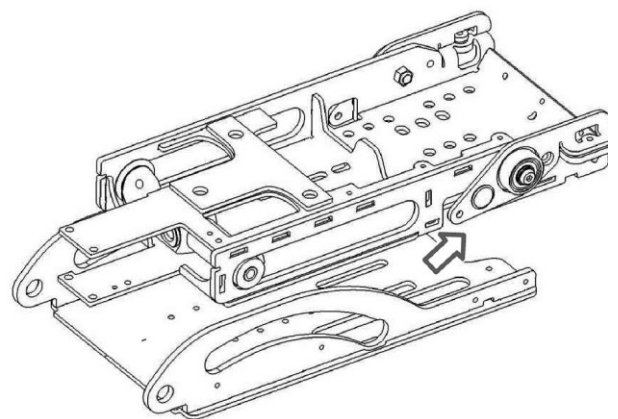

Fig. 9. Take the seat tilt apart.
10. Take the seat tilt apart. See fig. 9.